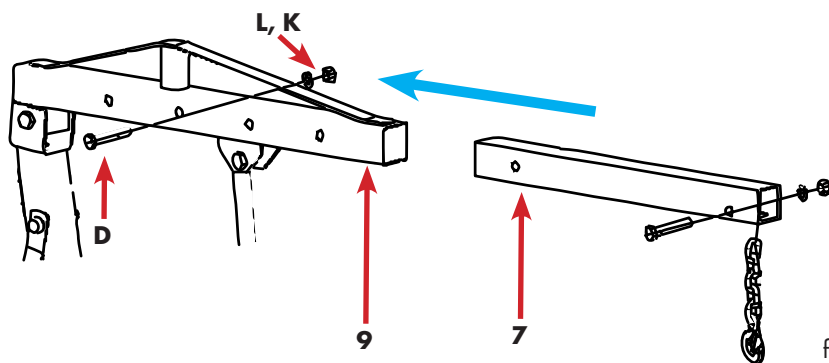

fig.15
- Slide the boom into the support arm so that the hole in the boom aligns with one of the four holes in the boom to secure at the desired load. Siehe fig.15.
| Legend Figure 15 (see also from page 15, Figure 2 and Table 1) | |